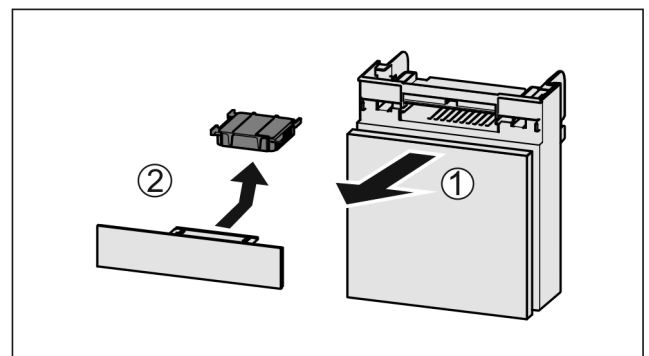

Fig. 42
- Pull out the compartment Fig. 42 (1).
- Remove the carbon filter Fig. 42 (2).